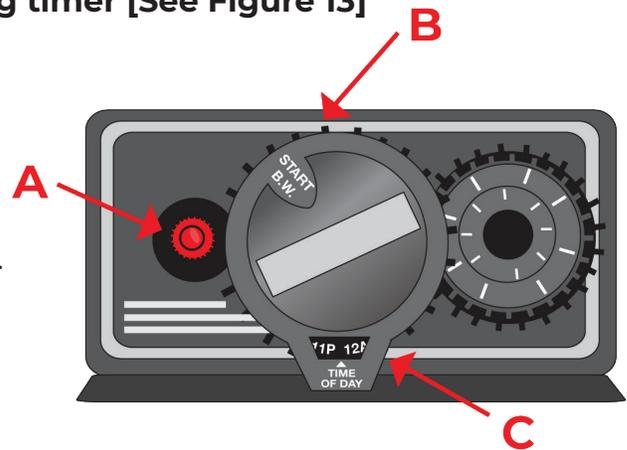

Figure 13 - BACKWASH position
1. The ScaleSolver outlet valve should be in the **BYPASS** position [See Page 4]. Lift off the valve cover on the filter unit and turn the control knob on your left (as you face the tank) **CLOCKWISE** to the **BACKWASH** position (notch roughly to the 12 o'clock position) [See Page 21, Figure 13].
To reset the weekly automatic self-cleaning timer [See Figure 13]